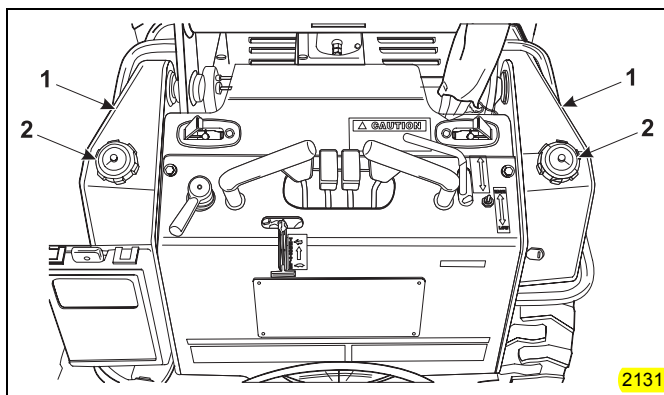

Figure 3-2 Fuel Level Check
3. The Brute has two saddle gas tanks (Item 1, Figure 3-2). Each of the tanks has a gas gauge located in the filler cap (Item 2, Figure 3-2). Remove cap and visually inspect fuel level to make sure that the indicator is showing the proper fuel level. Make sure that each tank has been filled on a daily basis.